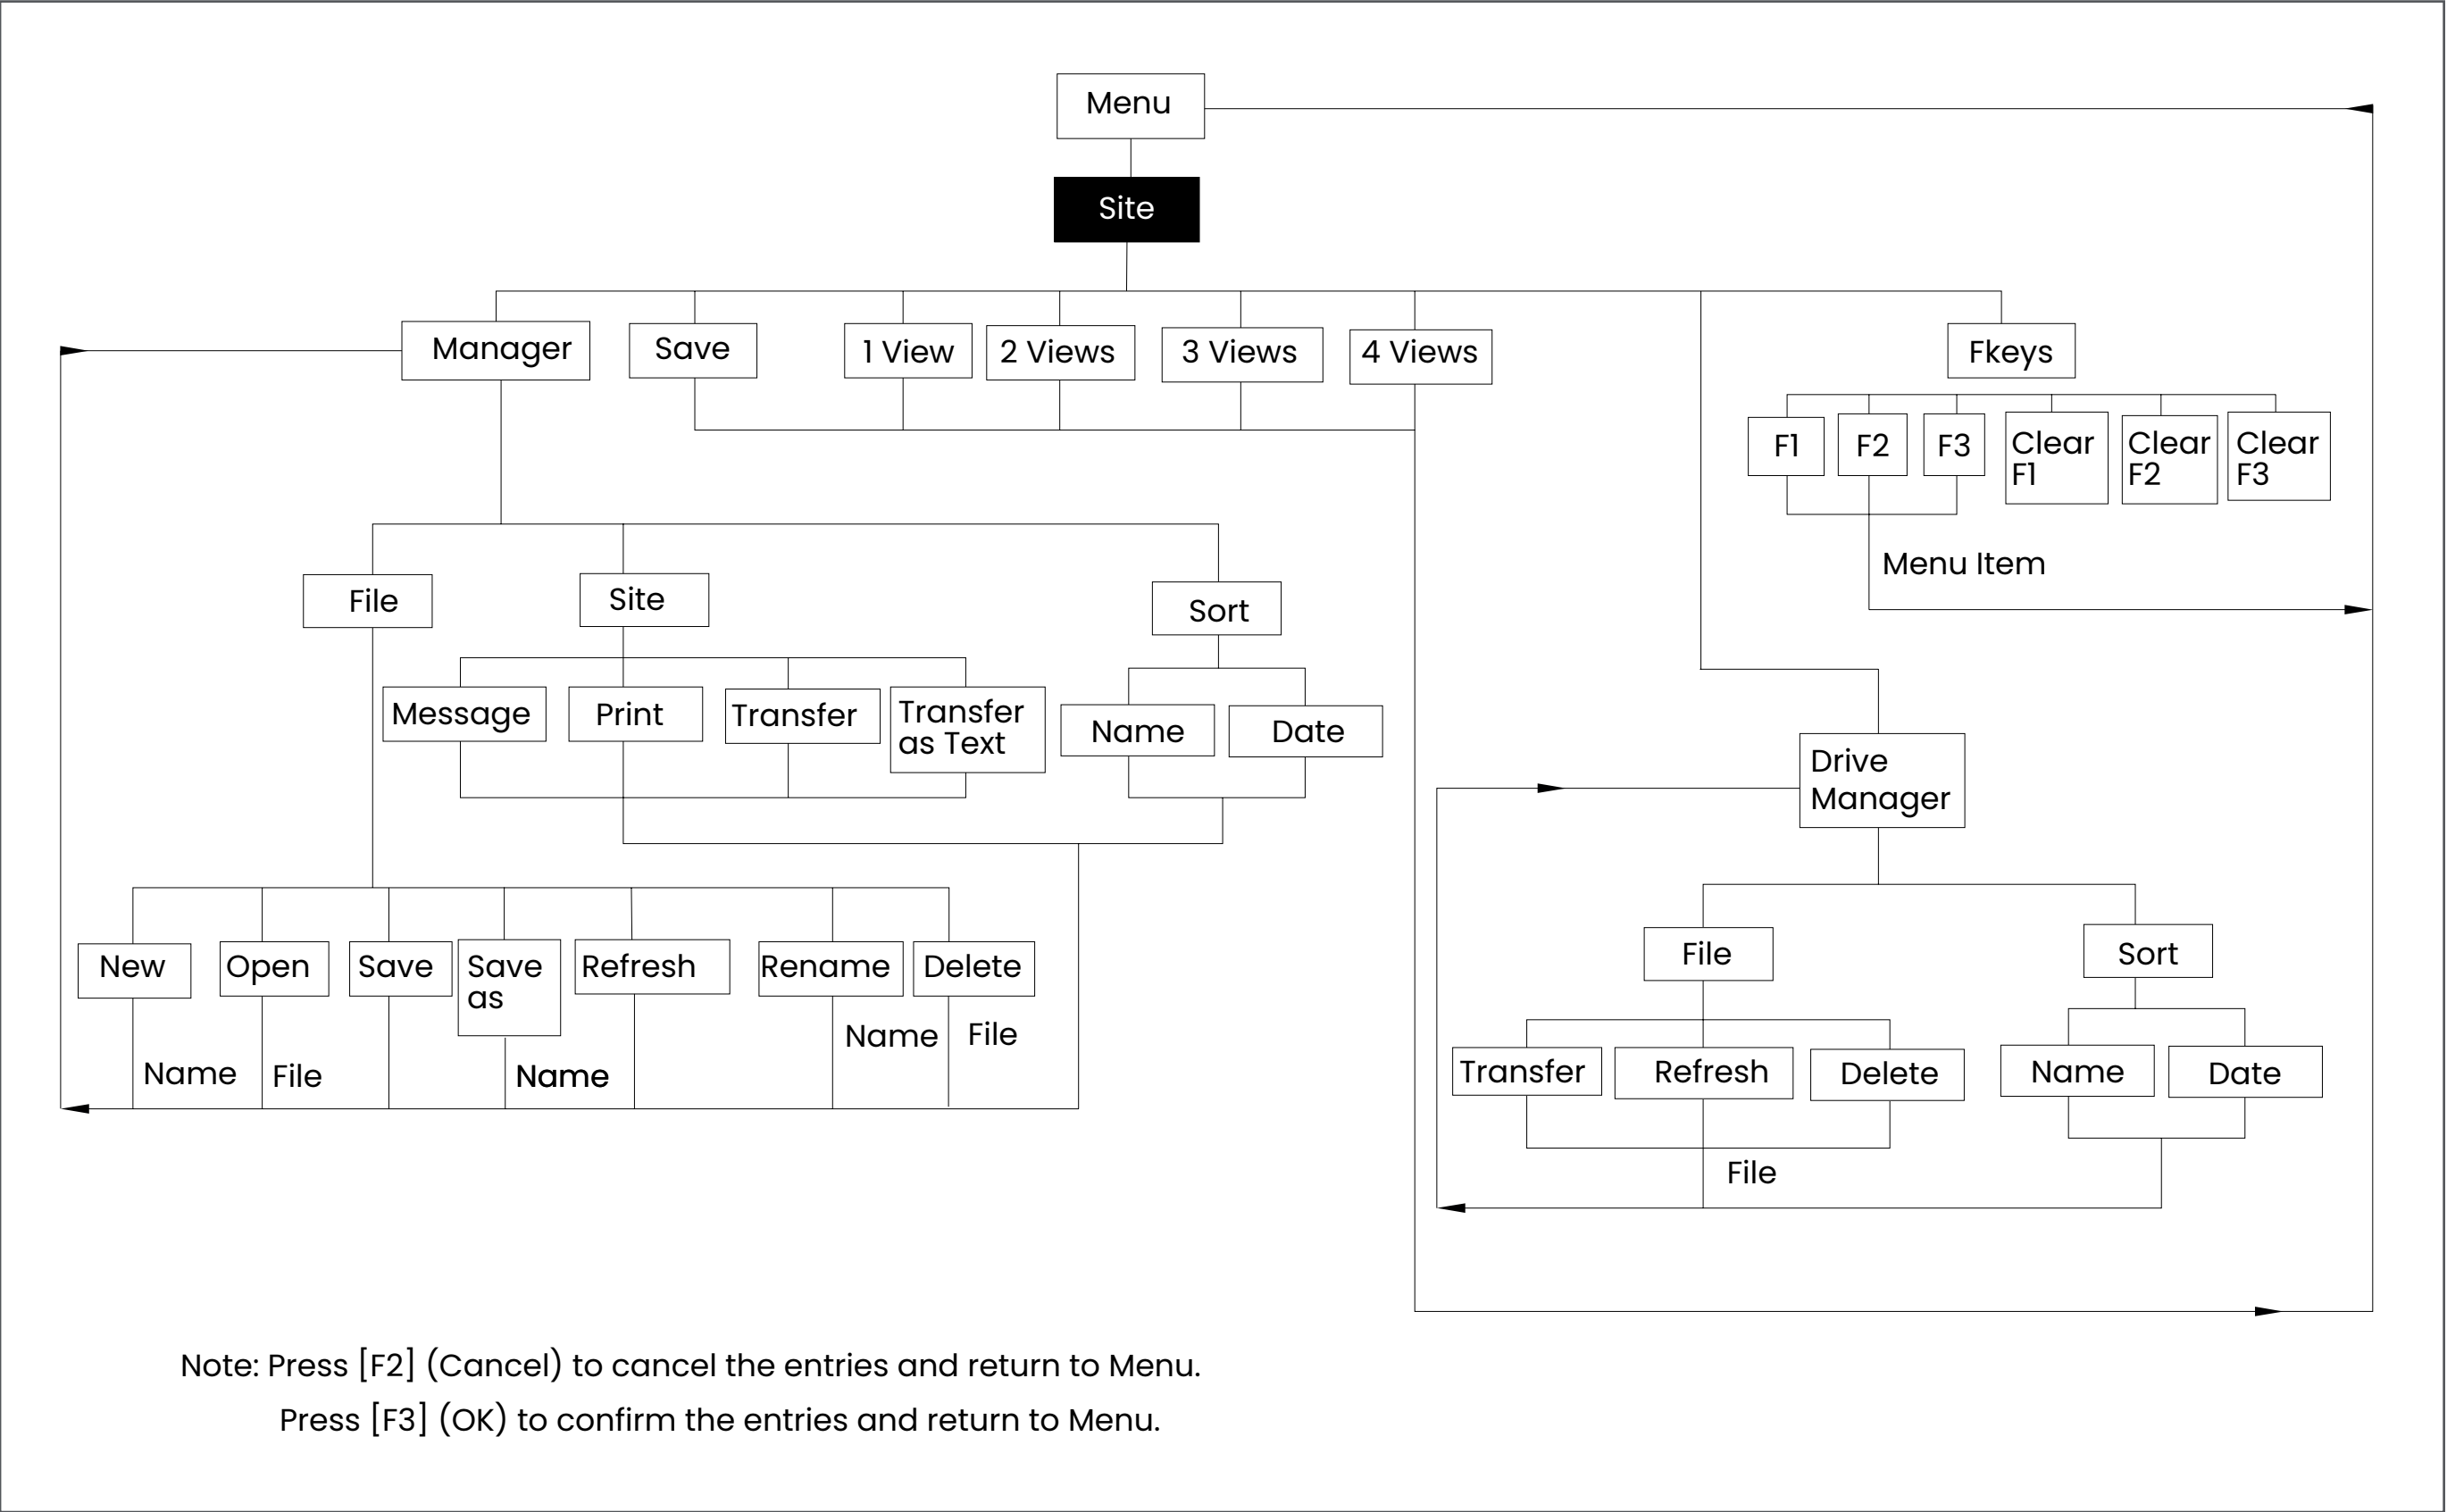

Figure 163: The Site Menu
- *Figure 163, "The Site Menu" on page 137*